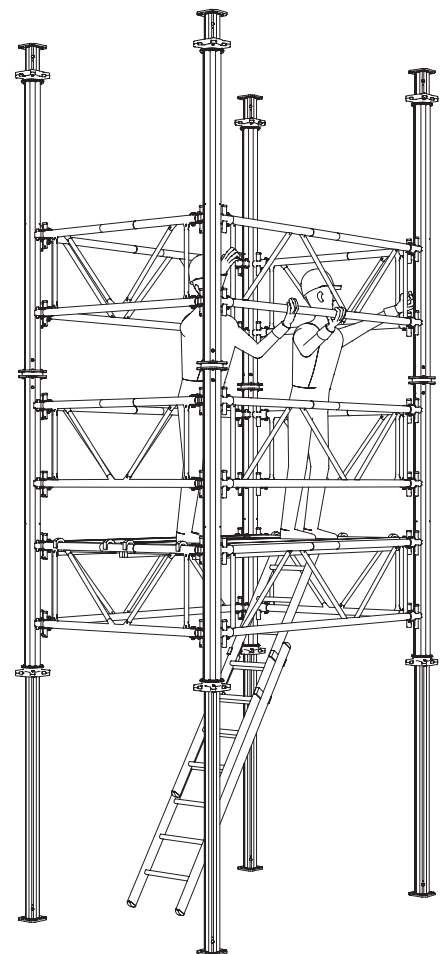

Fig. A4.04
- In order to mount the next prop and frame plane, an assembly level must be installed, e.g. Decks MP (16). (Fig. A4.04)
- Fit the MULTIPROP MP with the inner tube inserted. Spindle out to the required length only after bracing has taken place with Frames MP MRK. (Fig. A4.04)